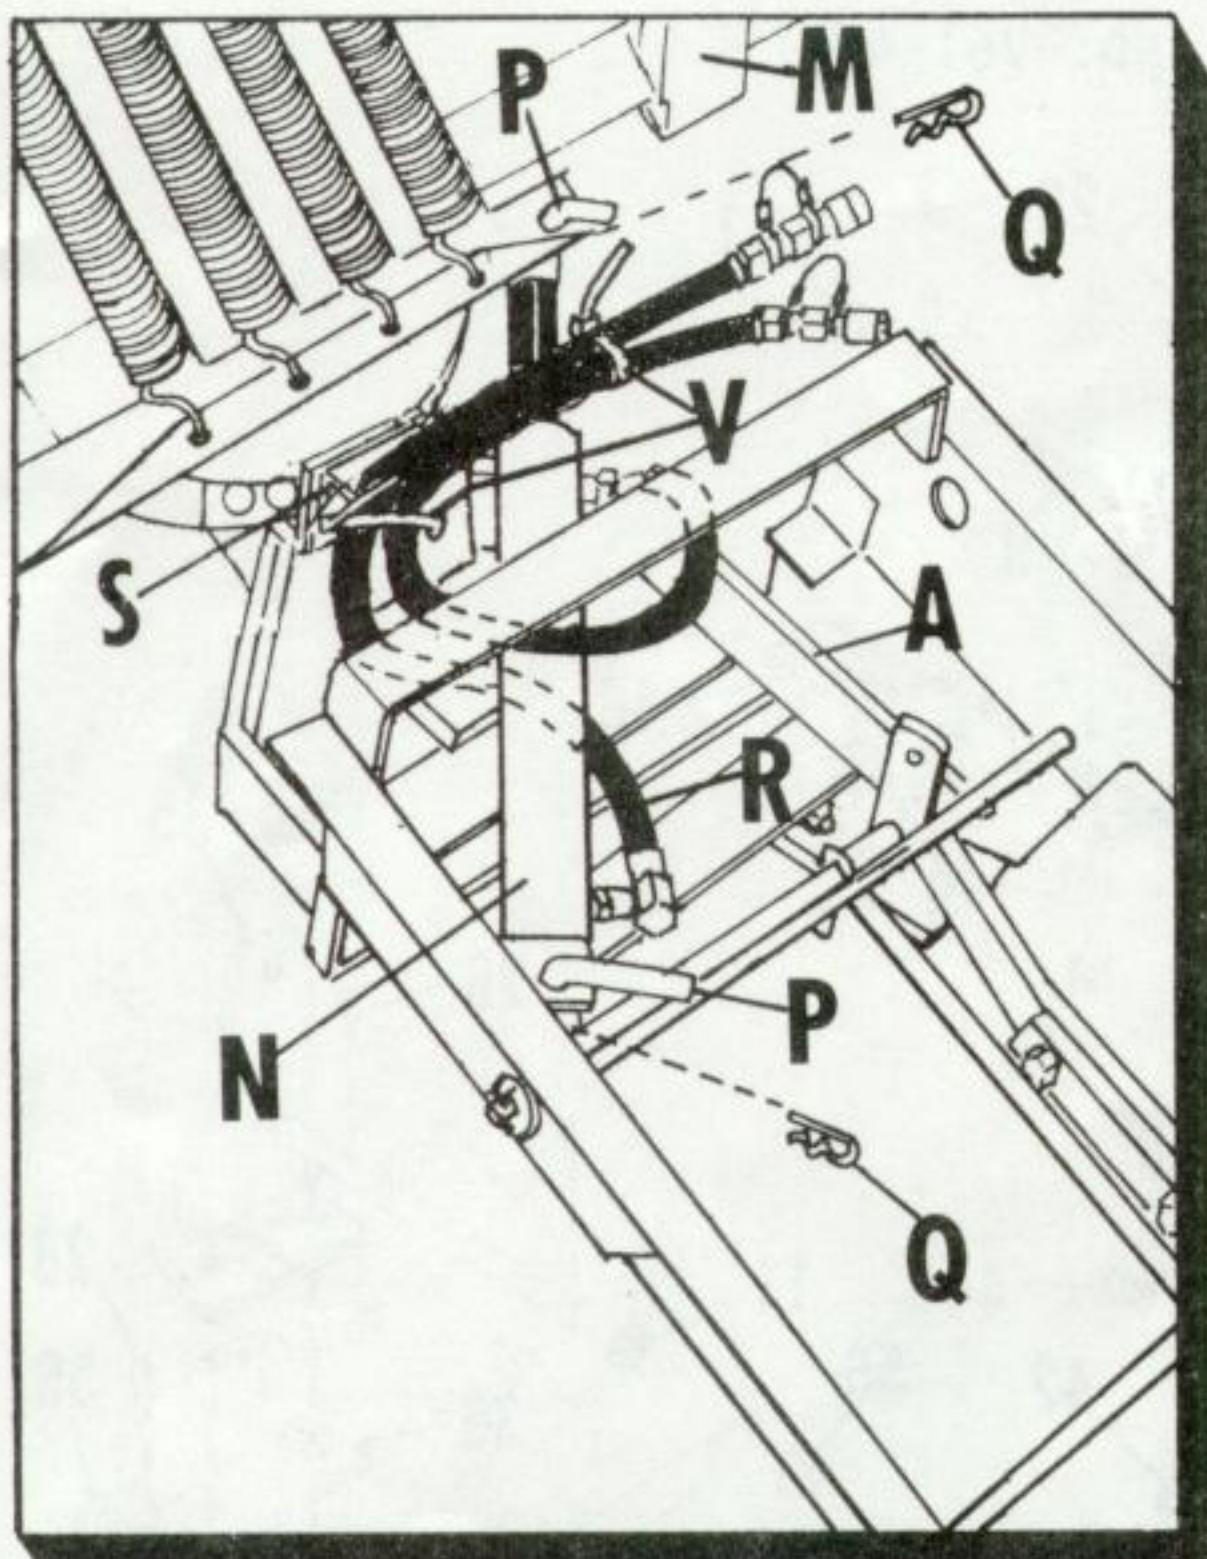

Fig. 22
2. Assy. hydraulic cylinder (N) to dozer blade (M) with two pins (P) and two hair pins (Q). (See Fig. 22)
3. Assy. hydraulic hoses to cylinder (N), long hose (R) to rear of cylinder, short hose (T) to front of cylinder.
4. Run hoses under hydraulic cylinder and tie to pin hsg. (S) with two plastic ties (V).
5. Tie hoses together at top with plastic ties keeping all excess hose in "A" frame assembly (A).